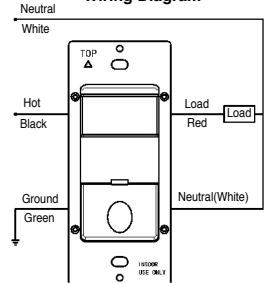

Figure 2
3. Connect lead wires as shown in WIRING DIAGRAM (see Figure 2): Black lead to Line (Hot), Red lead to Load wire, White lead to Neutral wire, Green lead to Ground.